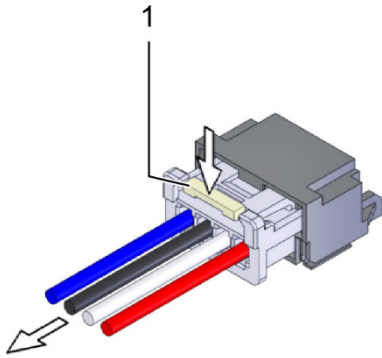

Fig. 49: Release the safety lock
- Disconnect the battery. Press the lock (fig. 49, item 1) and gently pull the plug to disconnect the connector.